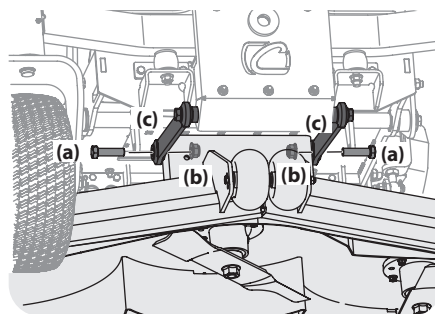

Figure 4-18
5. Remove the hex screws (a) and flange lock nuts (b) securing the front deck control rods (c) to the deck. See Figure 4-18.